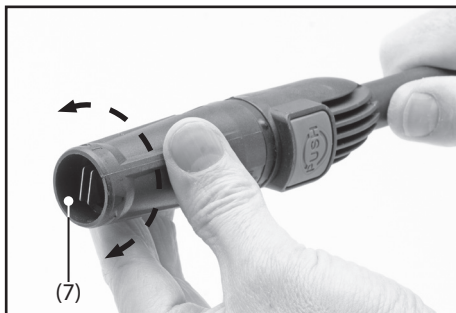

FIG.25
To achieve the desired spray pattern, rotate the spray nozzle (7) (FIG.25).